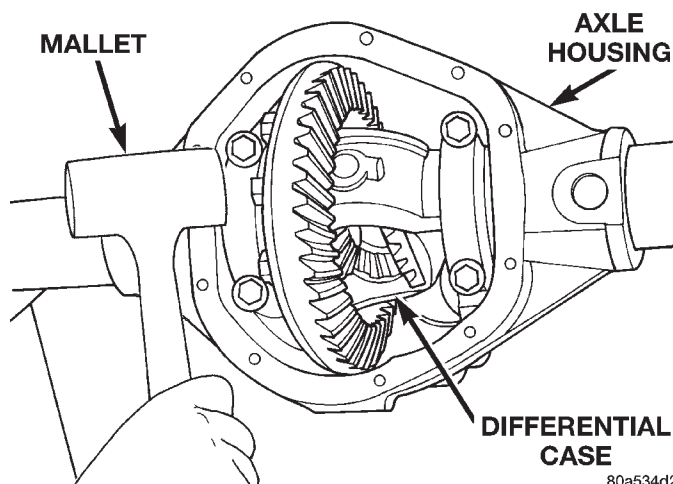
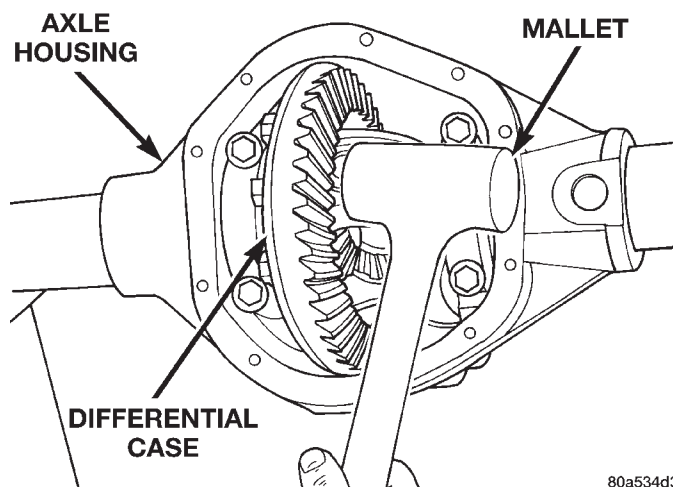

Fig. 66 Seat Pinion Gear Side Differential Dummy Bearing
Fig. 67 Seat Ring Gear Side Differential Dummy Bearing
- (7) Using a dead-blow type mallet, seat the differential dummy bearings to each side of the axle housing (Fig. 66) and (Fig. 67).
(16) Rotate dial indicator out of the way on guide stud.
(17) Remove differential case and dummy bearings from axle housing.
(18) Install pinion gear in axle housing. Install the pinion yoke and establish the correct pinion rotating torque.
(19) Install differential case and dummy bearings D-345 in axle housing (without shims), install bearing caps and tighten bolts snug.
(20) Seat ring gear side dummy bearing (Fig. 67).